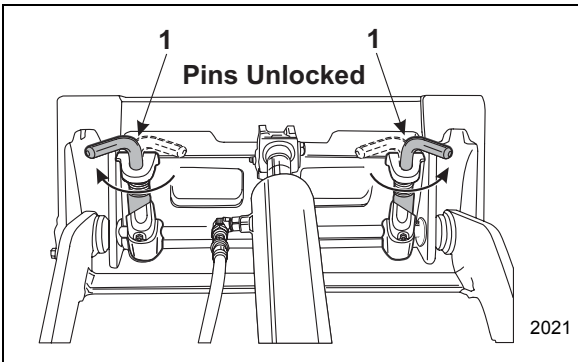

Figure 3–25 Attachment Locks in Unlocked Position
NOTE: Make sure that both of the attachment lock pins (Item 1, Figure 3–25 and Item 3, Figure 3–26) are in the “unlocked” position.
3. Slowly drive towards the attachment and align the top edge of the male mounting plate (Item 1, Figure 3–26) and the upper lip of the female attachment mounting plate (Item 2, Figure 3–26).